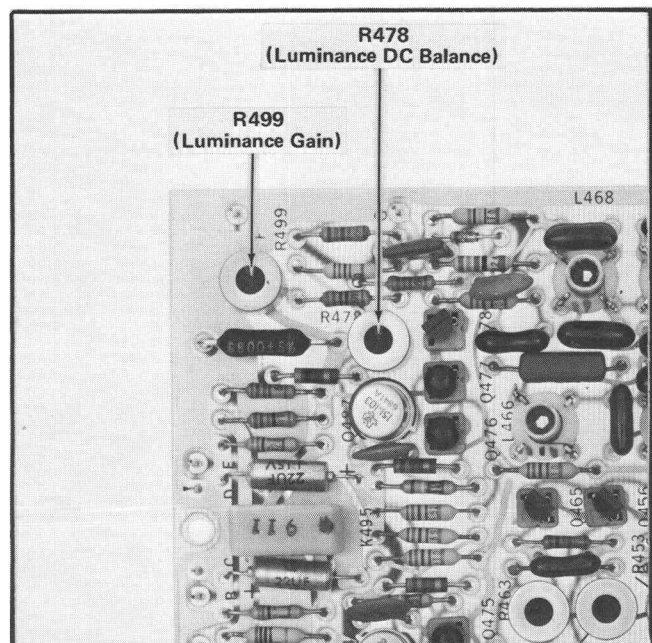

Fig. 5-8. Bar Drive and Video Output board adjustment locations.
m. ADJUST—Luminance Gain control, R499, (see Fig. 5-8) until the APL level line and the blanking level are aligned.
e. ADJUST—Luminance DC Bal control, R478, (see Fig. 5-8) until the blanking level of the display exactly coincides with the reference established in part b of this step.